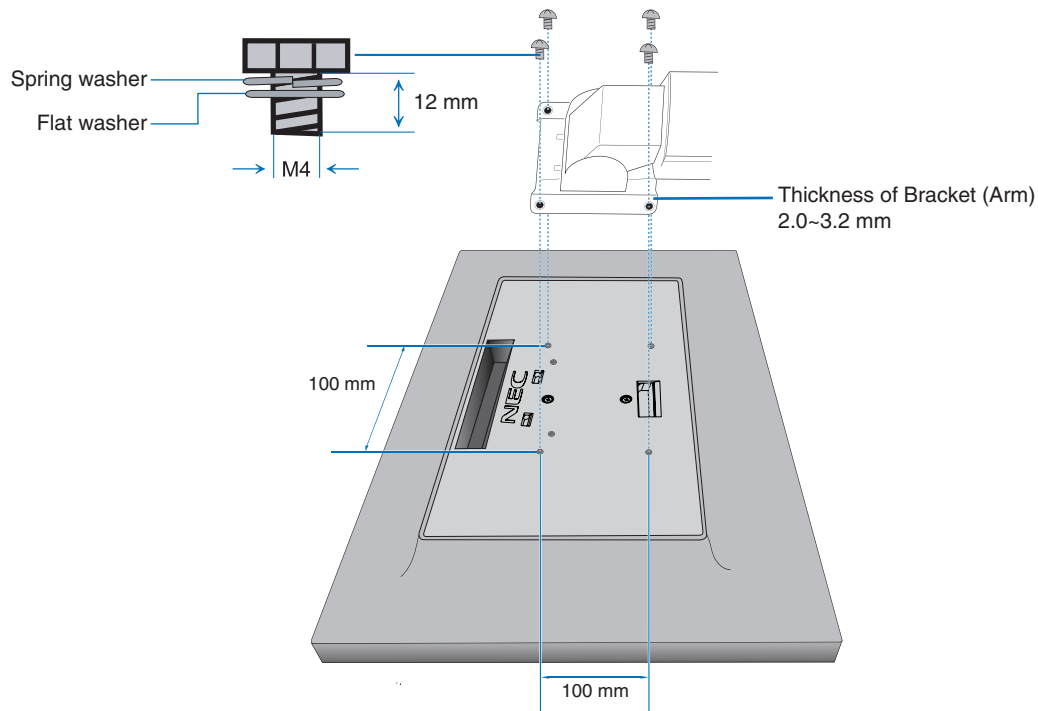

Figure F.1
2. Using 4 screws that meet the specifications listed below, attach the arm to the monitor (**Figure F.1**).